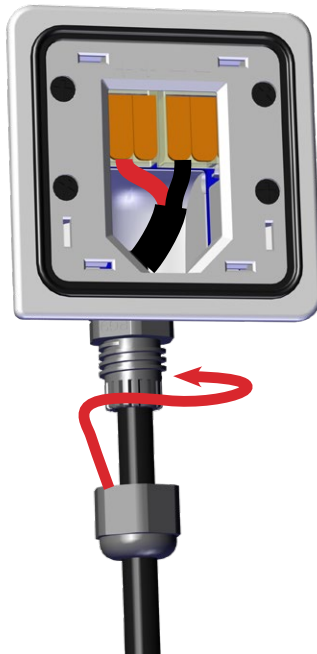

Figure 9a. Thread cable through the gland nut and barrel into ClickPlug
3. Wire the ClickPlug as shown (Figures 9a, 9b) leaving enough for the likely mounting angle and a drip loop if necessary. Do this before mounting the loudspeaker.